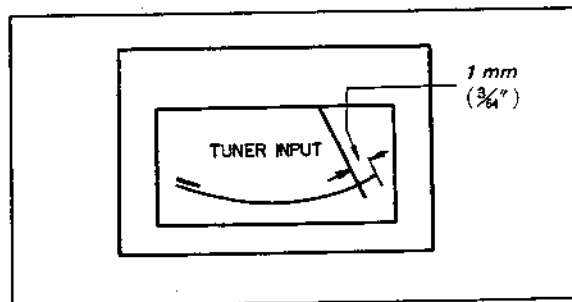
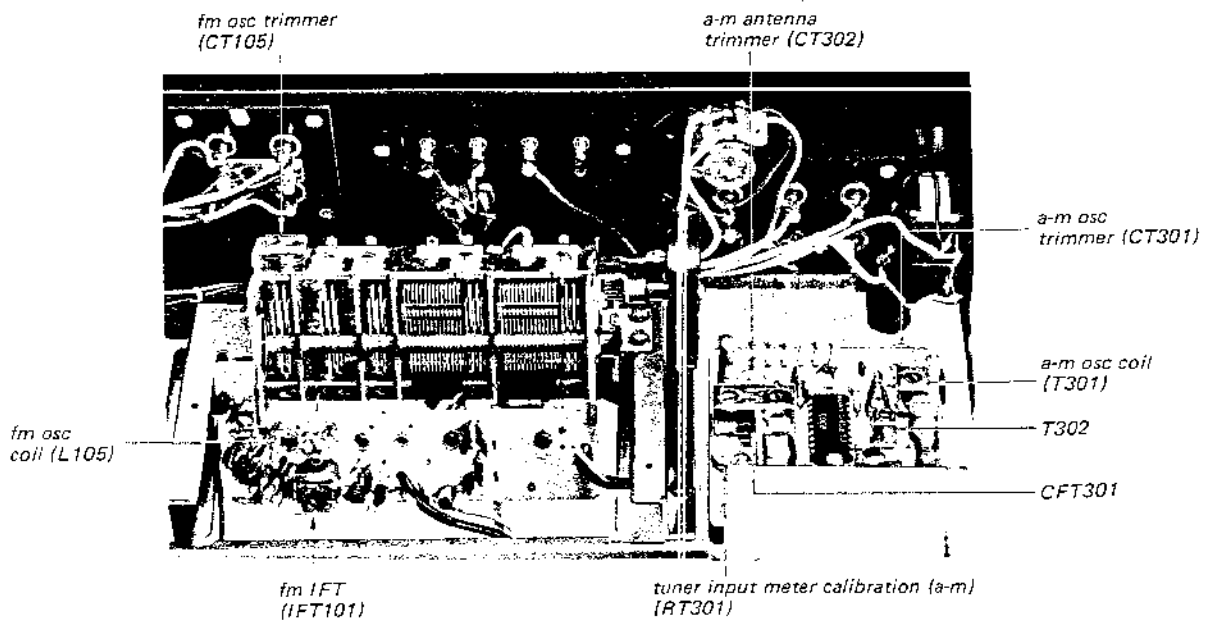
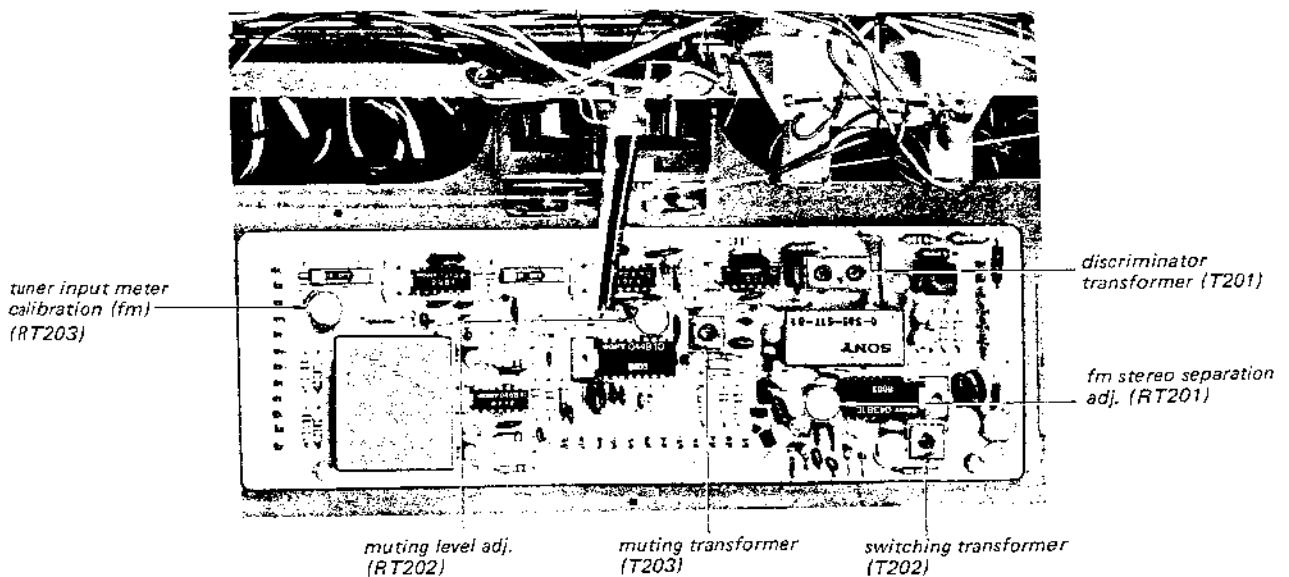

Fig. 3-10. TUNER INPUT meter calibration
Fig. 3-12. Adjustment parts location (1)
Fig. 3-13. Adjustment parts location (2)
2. Precisely tune the set to the SSG's carrier frequency, then turn the top core of switching transformer T202, to obtain maximum output at left channel. See Fig. 3-13. Note that this adjustment has a close relationship with stereo distortion.
5. The output-level to residual-level ratio represents the separation. Adjust separation adj. control RT201 (See Fig. 3-13) for minimum
Note: The i-f transformers (CFT301 and T302 See Fig. 3-12) in the a-m i-f amplifier circuit are adjusted at the factory, so very little adjustment is necessary in the field even if replacing any of these i-f transformers.
3. Precisely tune to the signal and adjust RT203 (See Fig. 3-13) to obtain the meter pointer within 1 mm (3/64") left of its maximum indication as shown in Fig. 3-10.
3. Precisely tune to the signal and adjust RT301 (See Fig. 3-12) to obtain the meter pointer within 1 mm (3/64") left of its maximum indication as shown in Fig. 3-10.